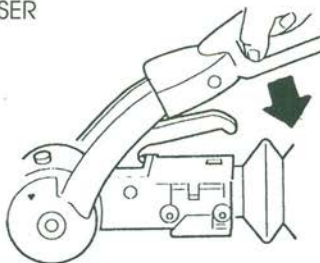

FIG. 2
- Press the red stabilising lever down. The AKS is now ready for the road. (Fig. 2)